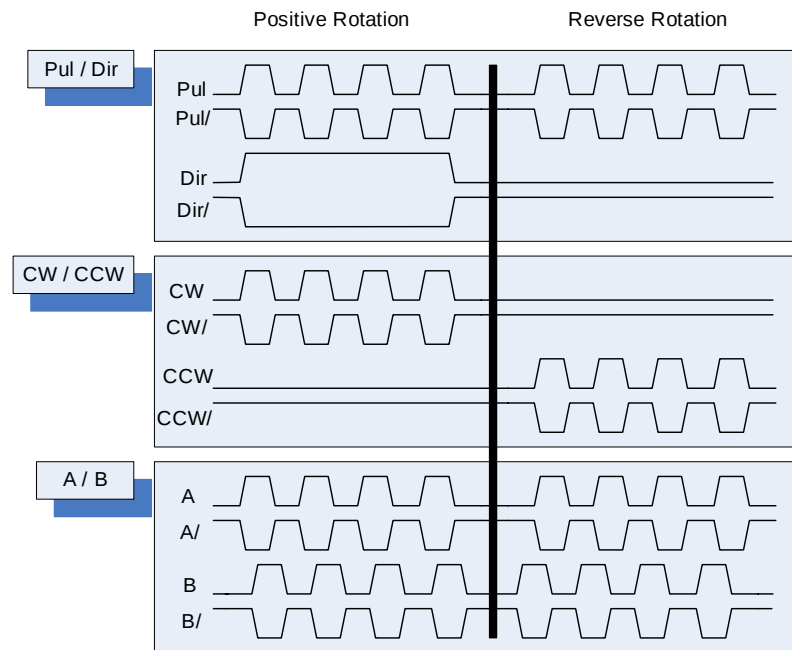

Fig. 3-8
- **CMD Type:** The command format of each axis, DASP-52506 supports the Pul/Dir, Cw/Ccw, and A/B command type. (Fig.3-8)